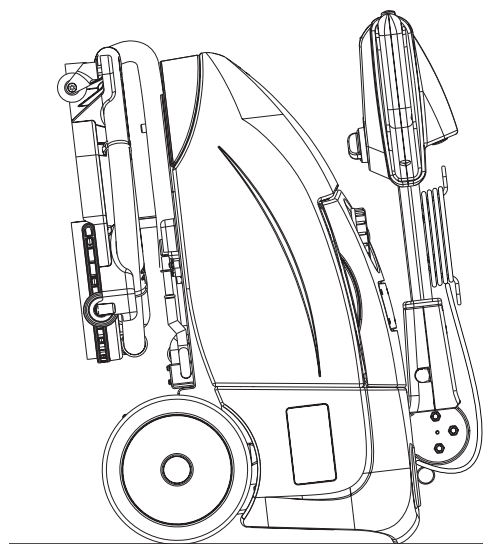

Figure 4
2. Open the cover (4) and disconnect the battery connector (7).
4. To safeguard the brush or squeegee blades, bend the handlebar (2) forward and park the machine as shown in figure 4.